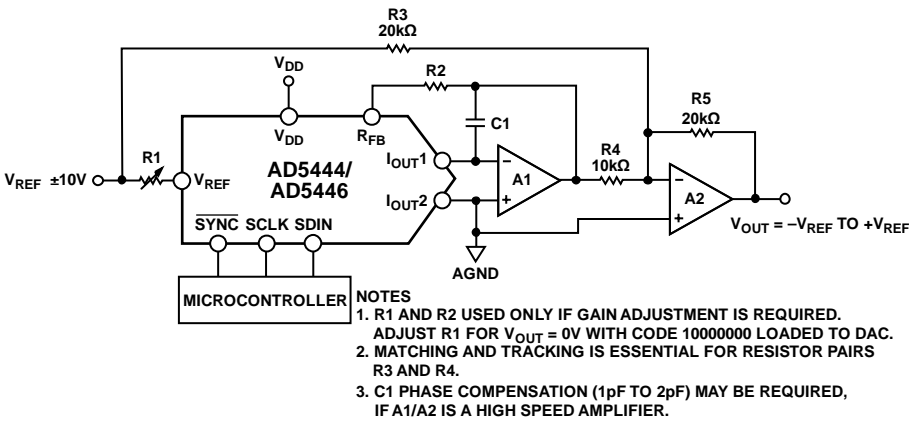

Figure 39. Bipolar Operation (4-Quadrant Multiplication)
In some applications, it may be necessary to generate a full 4-quadrant multiplying operation, or a bipolar output swing. This can easily be accomplished by using another external amplifier and some external resistors, as shown in Figure 39. In this circuit, the second amplifier (A2) provides a gain of 2. Biasing the external amplifier with an offset from the reference voltage results in a full 4-quadrant multiplying operation. The transfer function of this circuit shows that both negative and positive output voltages are created as the input data (D) is incremented from code zero ( $V_{OUT} = -V_{REF}$ ) to midscale ( $V_{OUT} = 0\text{ V}$ ) to full scale ( $V_{OUT} = +V_{REF}$ )
An optional compensation capacitor (C1) can be added in parallel with  $R_{FB}$  for stability, as shown in Figure 38 and Figure 39. Too small a value for C1 can produce ringing at the output, while too large a value can adversely affect the settling time. C1 should be found empirically, but 1 pF to 2 pF is generally adequate for the compensation.